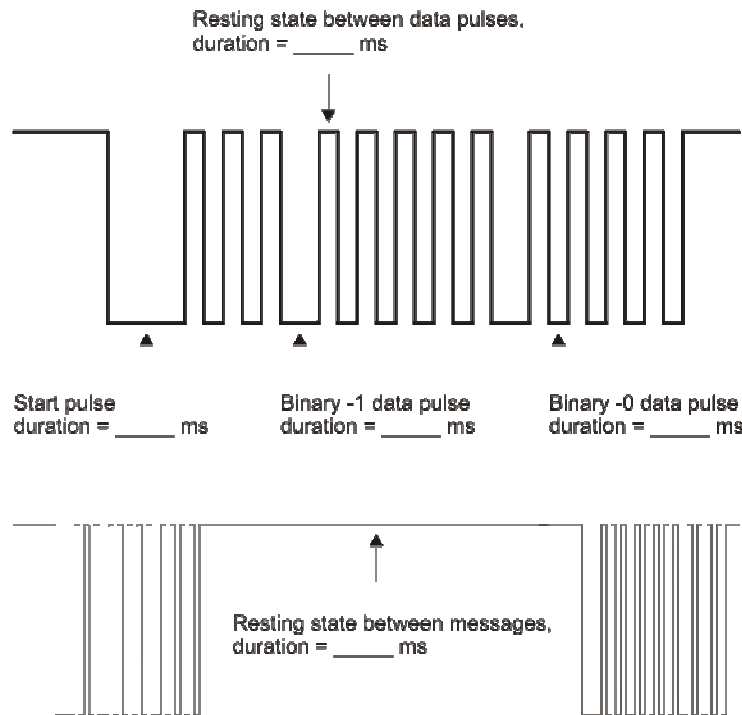

Figure 1-10
Figure 1-10 shows a timing diagram for an IR message from the remote. This diagram shows the timing while the 5 key on its digital keypad is pressed and held. Your task will be to fill in the blanks for each measurement using the numbers you have recorded in this activity. Remember that there are 1000 μs in every 1 ms. Your measurements have been in microseconds, so you will have to divide each by 1000 to enter the millisecond measurements in the timing diagram.
- ✓ Use the measurements you have taken in this activity to fill in the millisecond measurements in Figure 1-10.